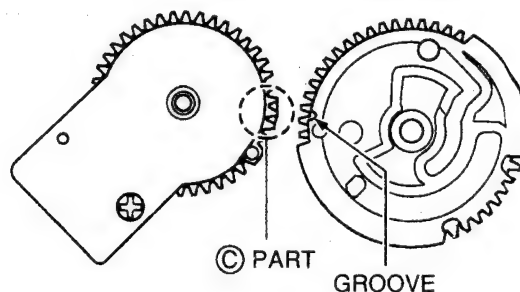
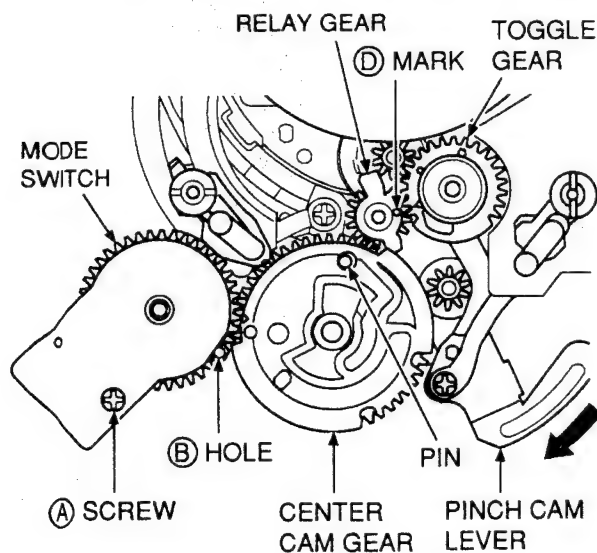

Fig. 3-30
Fig. 3-29
4. Remove the RELAY GEAR and CENTER CAM GEAR by pulling them upwards as shown in Fig. 3-29.
5. Remove the (A) screw which retains the MODE SWITCH and remove the MODE SWITCH carefully so as not to damage the flexible PCB as shown in Fig. 3-29.
7. Replace it with a new one and install it in the reverse order. When soldering the MODE SWITCH, take special care to place the MODE SWITCH in the correct position on the flexible PCB. And make sure that the MODE SWITCH's (B) hole is aligned with its reference hole on the chassis and the hole on the SLIDER PLATE PART.
8. Place the CENTER CAM GEAR on the MECHA. CHASSIS. At this point, align the (C) part (part with unbroken teeth) of the MODE SWITCH with the groove on the CENTER CAM GEAR as shown in Fig. 3-30.
And also move the PINCH CAM LEVER in the direction of the arrow and set it where the pin of the PINCH CAM LEVER is visible through the hole on the CENTER CAM GEAR as shown in Fig. 3-29.
9. Place the RELAY GEAR so that the (D) mark on the RELAY GEAR is aligned with the "<" mark on the TOGGLE GEAR as shown in Fig. 3-29.
- 3) When placing the RELAY GEAR, the RELAY GEAR's ⓐ mark must be aligned with the < mark of the TOGGLE GEAR (refer to 3-4-11, step 9). At this point confirm that the ⓐ part (the part with unbroken teeth) of the MODE SWITCH is aligned with the groove on the CENTER CAM GEAR and the MODE SWITCH's ⓐ hole is aligned with its reference hole on the CHASSIS and the hole of the SLIDER PLATE (refer to Fig. 3-30 and 3-29).